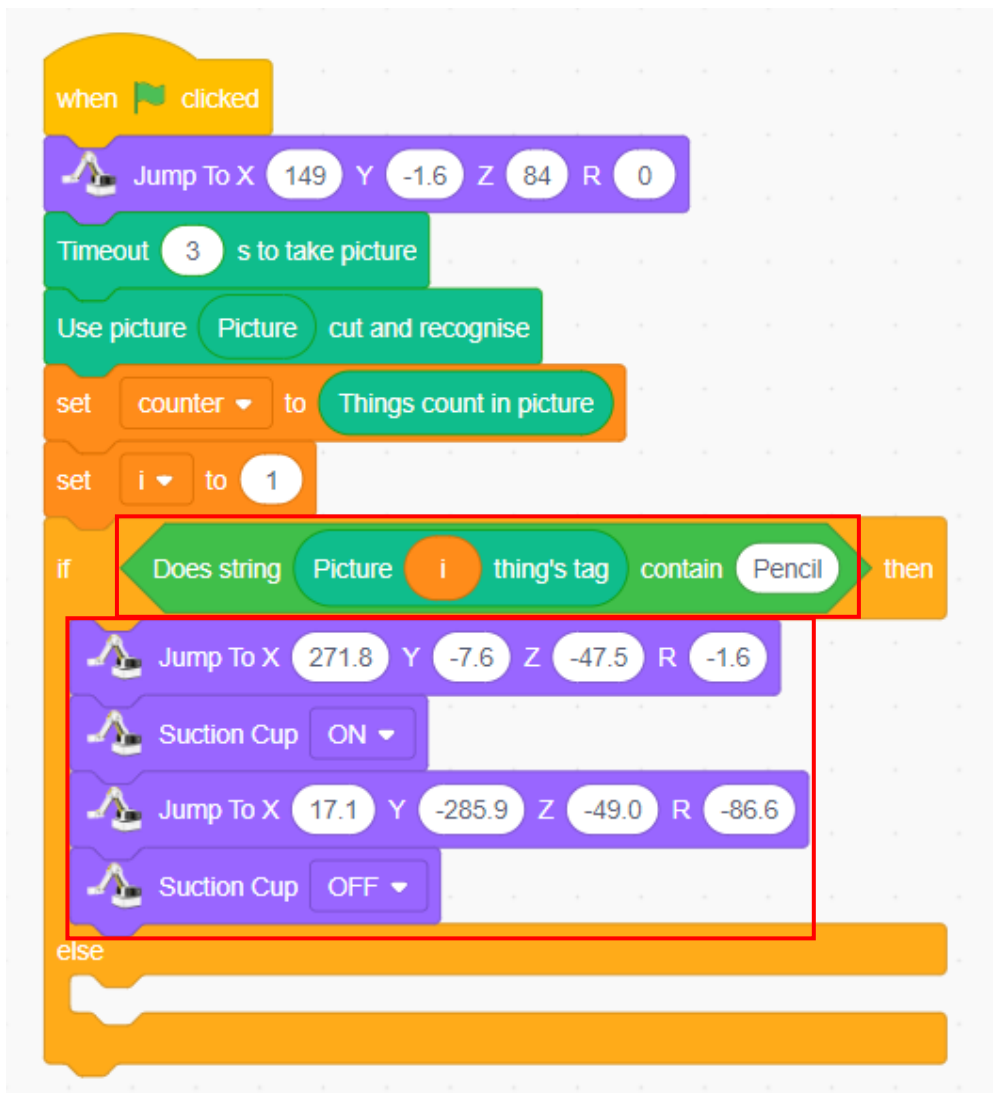

Figure 4.30 Multi-branch structure
Step 3: Test the label of a segmented item by using a multi-branch structure. If the label of a segmented item shows a pen, the robotic arm will grab the pencil to the proper placement area, as shown in Figure 4.30.